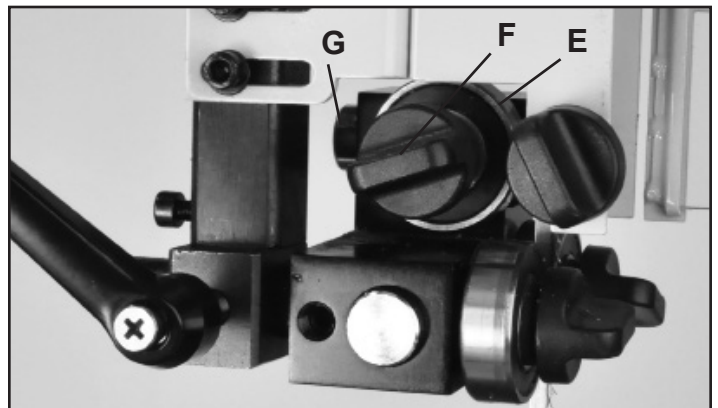

FIGURE 24
4. Adjust the rear bearing guide (Fig. 24, E) to be just clear of the back of the saw blade. Release the guide's Locking Handle (#17C, F) and move the rear guide towards the blade by pushing the end of the Rear Guide Shaft (#27C, G). Tighten the handle when done. Fig. 24.